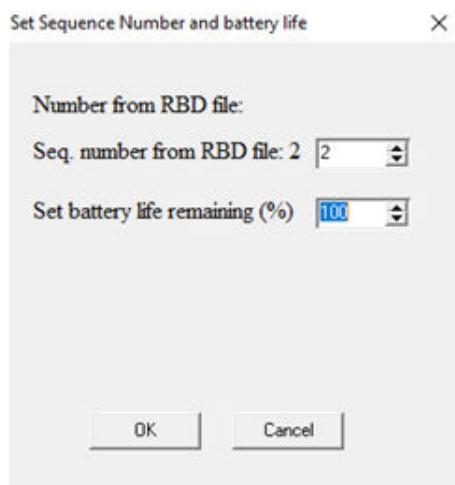

Figure A.2: Set Sequence Number.
5. Insert the sequence number and remaining battery life (see Figure A.2). Note that if the sequence number is set too low, data will be overwritten.
6. The **SeaStar** software downloads the RBD file into the recorder and the window in Figure A.2 appears. Click **OK**.